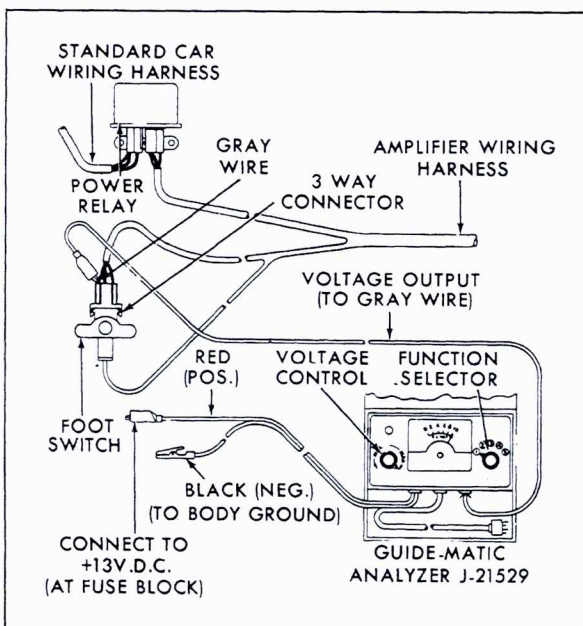

Fig. 15-38 Foot Switch Check
h. Check for defective foot switch. To check connect Analyzer, J-21529, as shown in Fig. 15-38. Headlights should remain on low beam in both positions of foot switch with voltage control knob at maximum clockwise position and function selector switch in position #1. If so, proceed to step 5i. If not, replace foot switch and make normal system connections. Check as described in steps 1-4. If system still does not operate properly, proceed to step 5i.